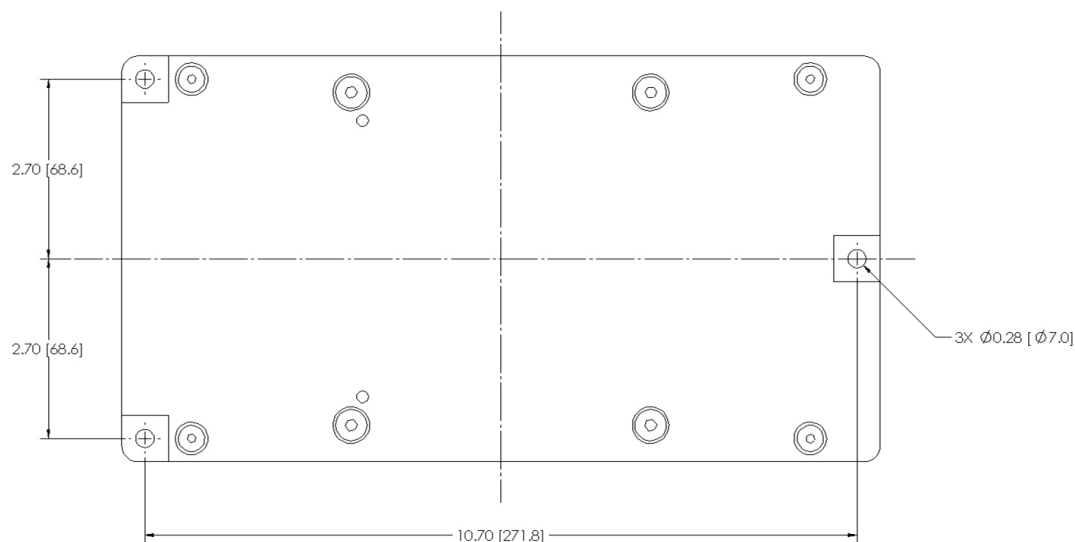

Figure 5: AFD70-3 Mounting Bracket Hole Locations
The AFD70-3 is designed for mounting on a stationary fixture. It has (3) three 0.28" (7.0 mm) mounting holes spaced as shown in Figure 5. The AFD70-3 Table Top Mounting Bracket should not be modified without first consulting PushCorp, Inc.